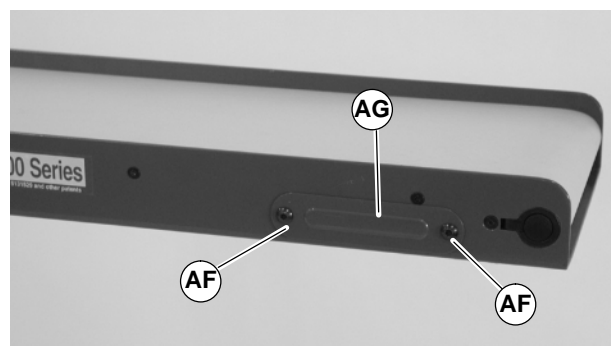

Figure 16
- 1a. Remove screws (AF of Figure 16) and tension pin covers (AG) on both sides of conveyor.